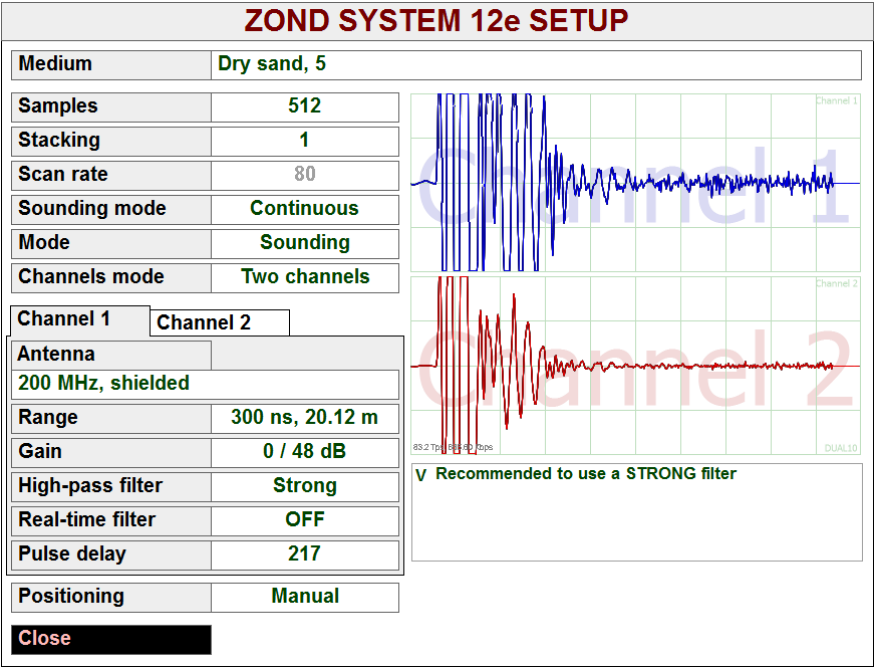

Fig. 9.2b. Double channel GPR settings.
- Double channel **Zond-12e** and **Zond-12e Advanced** GPR settings interface shown on Fig. 9.2b.